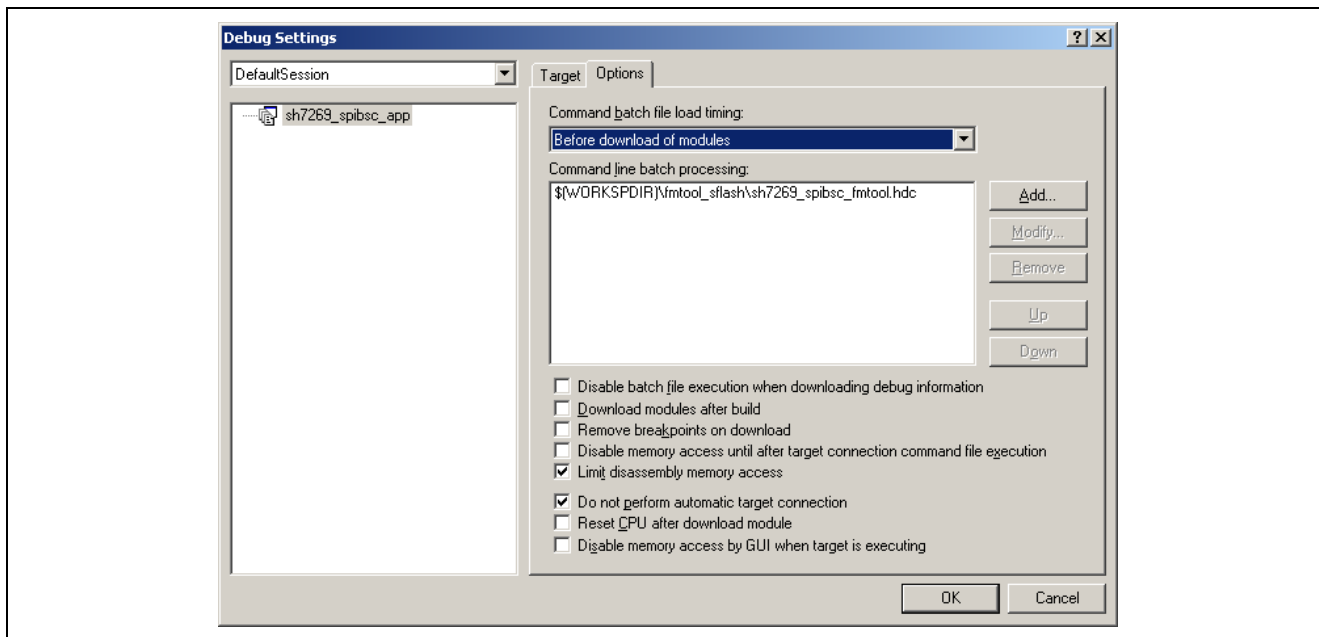

Figure 7.3 Window for Debug Setting
2. The window shown in Figure 7.3 opens.